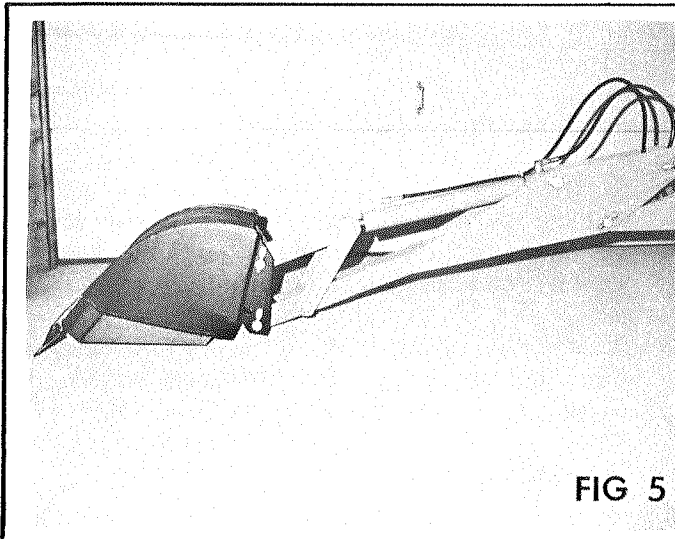

FIG 5
2. Stretch out the boom, dipper arm, and bucket, as shown in Fig 5 and 6. Lower the bucket to the ground so that it rests there solidly.
3. Place suitable blocking under the backhoe frame to support it adequately, as shown in Fig 5 and 6.
5. Gently lower the backhoe onto the blocking as shown in Fig 5 and 6. Leave the stabilizers outstretched and firmly in contact with the ground for added stability.